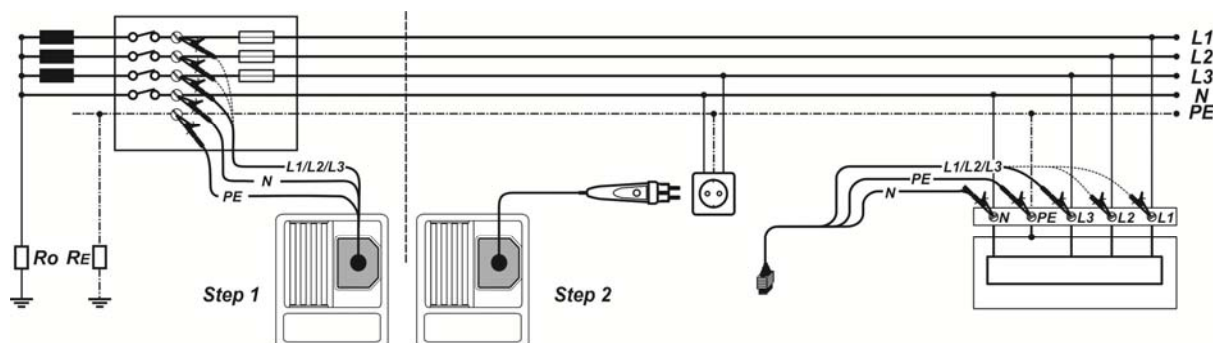

Figure 5.39: Phase-neutral or phase-phase voltage drop measurement – connection of plug test cable and 3-wire test lead
- **Connect** the test leads to the origin of electrical installation (see Figure 5.39).
- **Connect** the test leads to the tested points (see Figure 5.39).